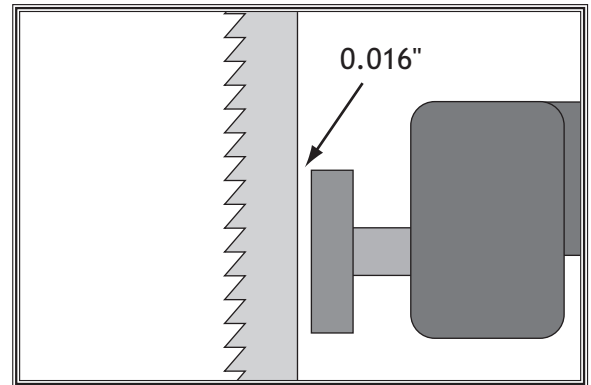
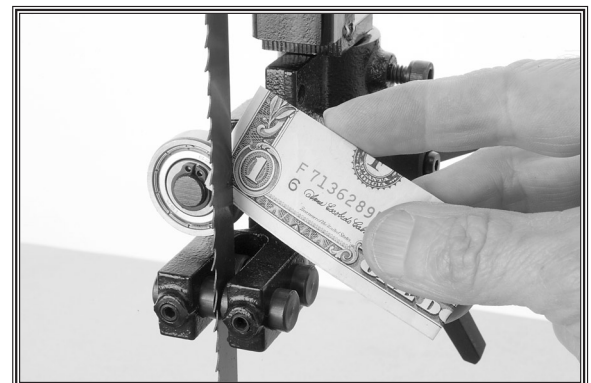

Figure 26. Blade should be aligned approximately 0.016" away from the bearing edge.
Figure 27. Dollar bill folded twice to make a quick 0.016" gauge.
9. Position the support bearing approximately 0.016" away from the back of the blade as illustrated in **Figure 26**. To quickly gauge this setting, fold a dollar bill in half twice (when folded tightly, four thicknesses of a dollar bill is approximately 0.016"). Place the folded dollar bill between the support bearing and the blade as shown in **Figure 27**.